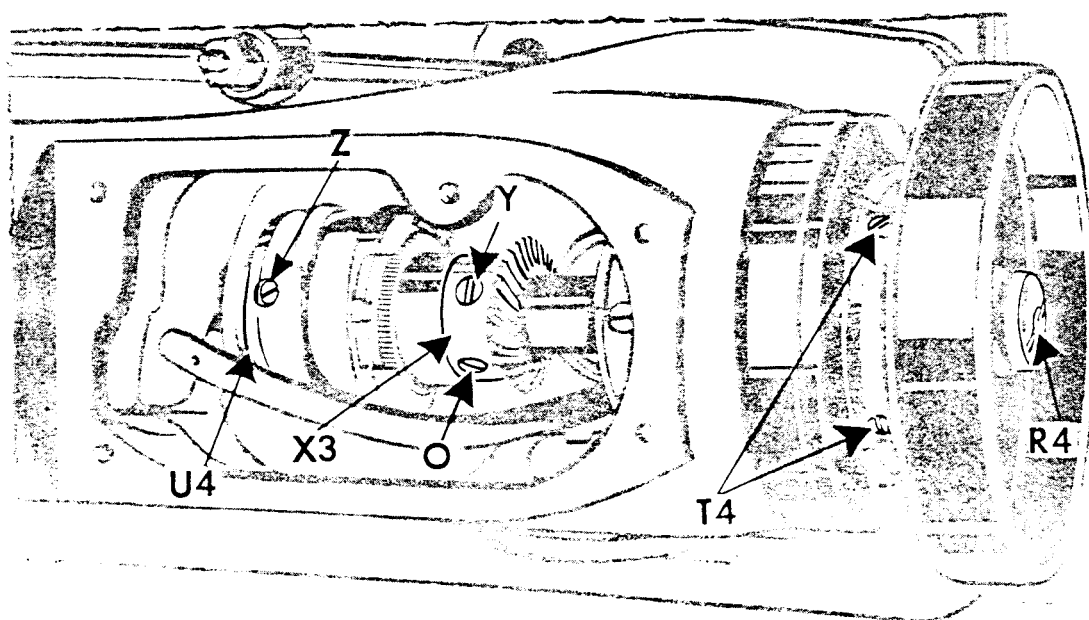
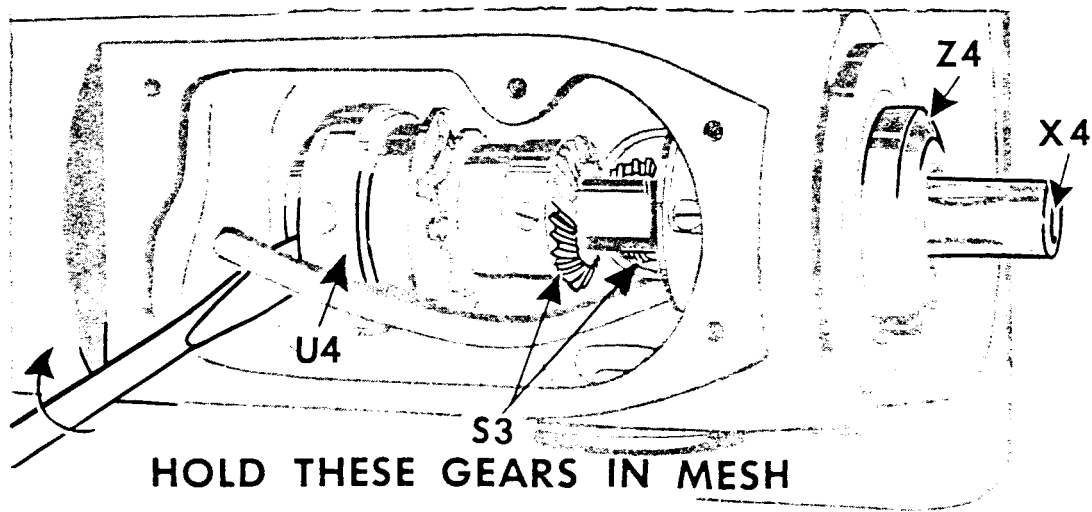
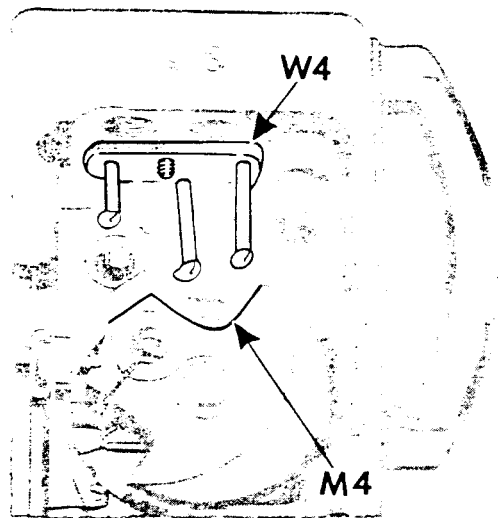

Fig. 67. Loosening the Feed Eccentric
Fig. 68. Removing the Arm Shaft
Fig. 69. Position of Needle Bar Crank, During Removal of Shaft
(See Figs. 67 to 69)
9. Remove the feed timing screw **Y**, **Fig. 67** and loosen the set screw **O**, **Fig. 67**, in the feed-lifting-eccentric-and-bevel-gear, **X3**, **Fig. 67**.
10. Remove the timing screw **Z** and loosen set screws in the feed eccentric **U4**, **Fig. 67**.
11. Remove arm shaft screw **R4**, **Fig. 67** from machine pulley end of arm shaft.
12. Loosen the two set screws **T4**, **Fig. 67** and remove the machine pulley.
13. Turn the needle bar crank until it is in the position shown at **M4**, **Fig. 69**, to prevent crank from disturbing the three wick loops in holder **W4**, **Fig. 69** during removal of arm shaft.
CAUTION: The feed-timing-bevel-gears at S3, Fig. 68 have been lapped together at the factory and **should be kept in mesh** (as instructed in Fig. 68) throughout the removal and replacement of the arm shaft.
14. While maintaining needle bar crank M4 at position shown in Fig. 69, hold these gears in mesh by holding the blade of a large screwdriver between the arm casting and the feed eccentric U4, as shown in Fig. 68; then push the end of the arm shaft X4, Fig. 67 through the bushing Z4, Fig. 67.
2. Make certain that the needle bar crank is turned to the position shown in Fig. 69, clearing the three wick loops in holder W4.